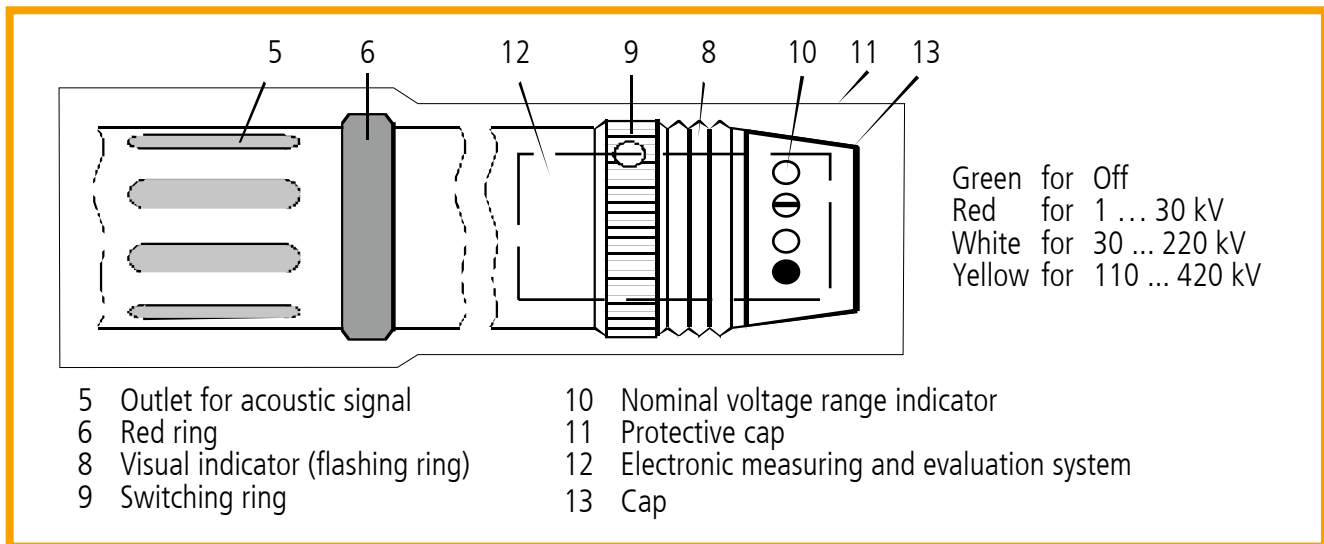

Fig. 5 Operating head with indicator
- 4.7** The voltage detector is a multiple voltage range indicator. The voltage ranges can be changed by turning the yellow switching ring (9) on the operating head (see Fig. 5)
- 5.1** The operating head of the voltage detector has a yellow knurled switching ring (9), which activates the device and sets the corresponding nominal voltage range at the same time when turning it (see Fig. 5).
6.2 Release the axial flat headed screw in the cap (Fig. 5, page 8) and remove the cap
- 10.5 Approach the operating head to the part of the installation to be tested (Fig. 5).